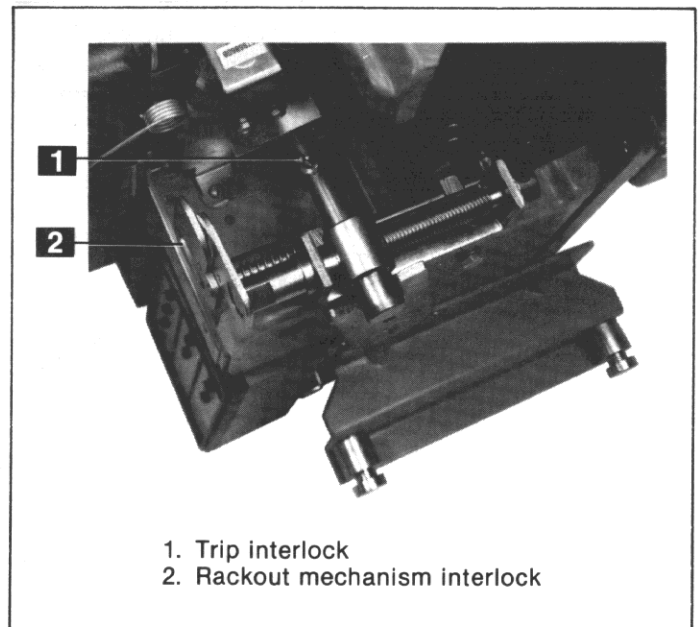

Fig. 17. Draw out interlocks
Draw Out Interlocks (Fig. 17)
The rackout mechanism is interlocked so that the circuit breaker must be open before the operating wrench can be inserted. When the breaker is closed, the interlock shaft (2), Fig. 17, is blocked by the breaker cross bar. The trip interlock linkage (1) on the rackout mechanism shaft holds the breaker trip free when racking between the "Connect" and "Test" positions.
To adjust trip interlock screw (1), Fig. 17, rotate racking screw CCW to full "disconnect" position. Rotate this screw CW 23 full turns. Back out screw (1) to close breaker. Run in screw until breaker just trips. Run in screw one additional turn and tighten jam nut. Continue to rotate racking screw CW to full "connect" position stop. Check that screw (1) has approximately 1/32-inch clearance with trip paddle. To adjust, rotate trip paddle about its mounting screw and re-tighten.